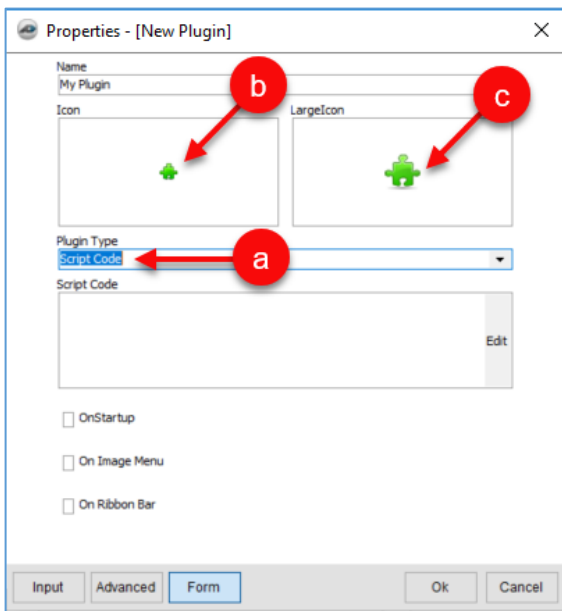

Figure 53-F
7. You can select where you want the new icon to appear (Fig. 53-G):